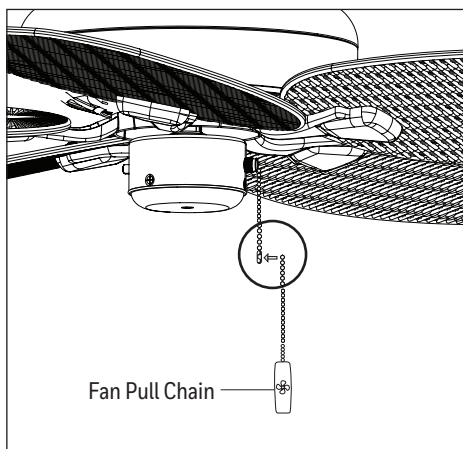

Figure 6.2
2. Attach the pull chain extension (Figure 6.2).